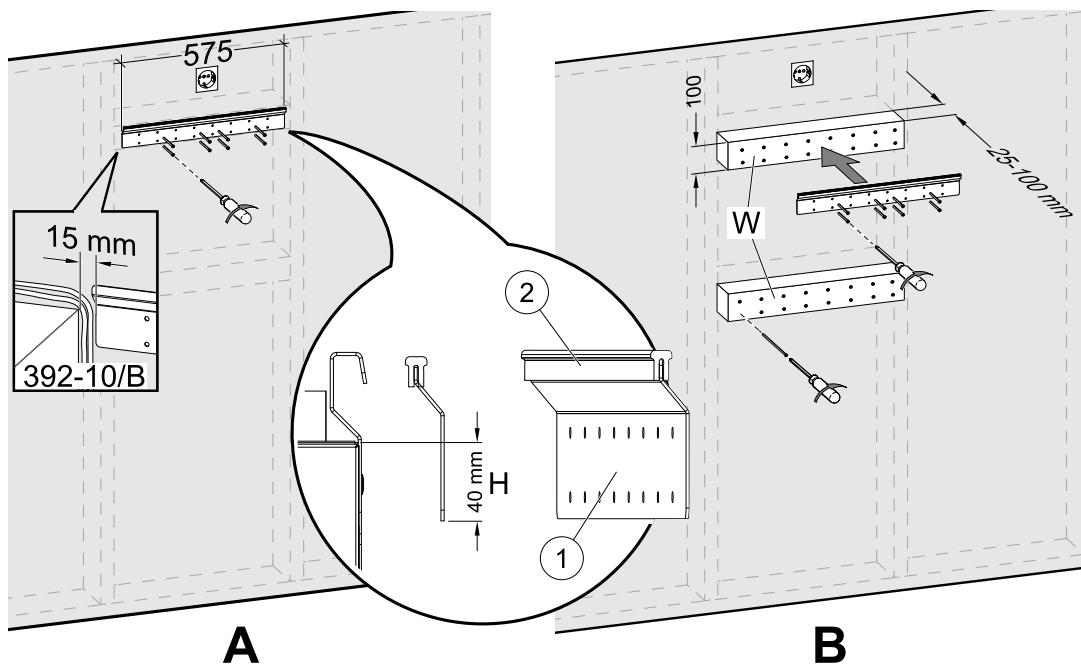

Fig. 9 Installation of mounting bracket without or with wooden blocks
2. Screw the mounting bracket (pos. 1) with the anti-vibration pad (pos. 2) to the wall (figure 9, pos. A). **Screws are not included**, choose them based on your wall type. Use appropriate holes to screw the bracket firmly to the wall. Bottom side of bracket should be 40 mm (H) below top of unit position.
In case the depth of cabinets is much greater than the unit, install wooden blocks (pos. W) to compensate the missing distance (figure 9, pos. B). Then install the mounting bracket on the upper block. Choose thickness of blocks according to your needs.